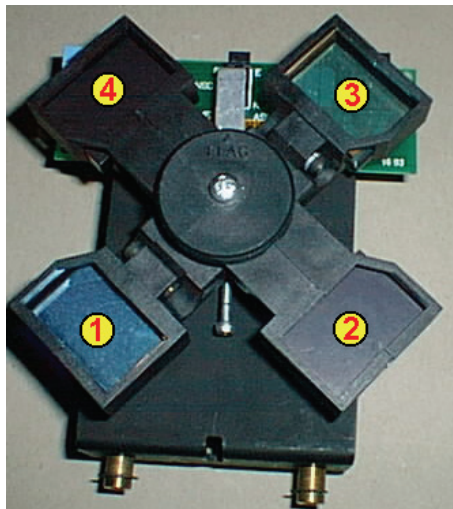

Figure 92 Positions for the emission wheel
- The positions for the emission wheel are shown in Figure 92.